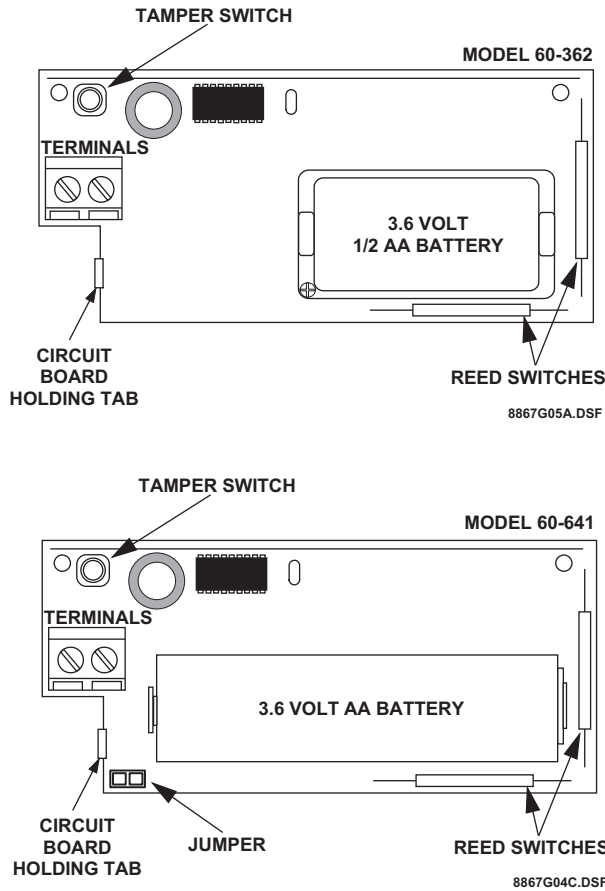

Figure 2. Door/Window Sensor Circuit Boards
- Remove the unused reed switch, clipping the leads as close to the board as possible (see Figure 2.)